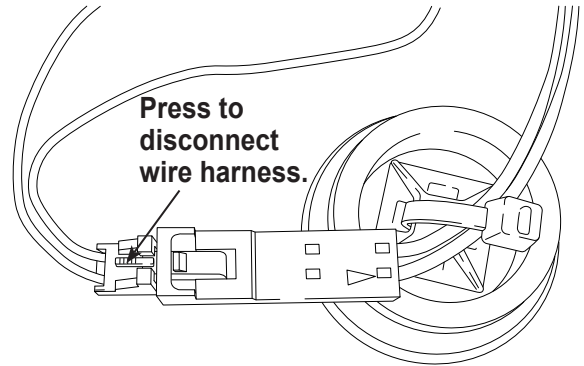

Figure 15
6. Disconnect the wire harness at the connector by pressing on the center tab. Pull the connectors apart. See Figure 15.